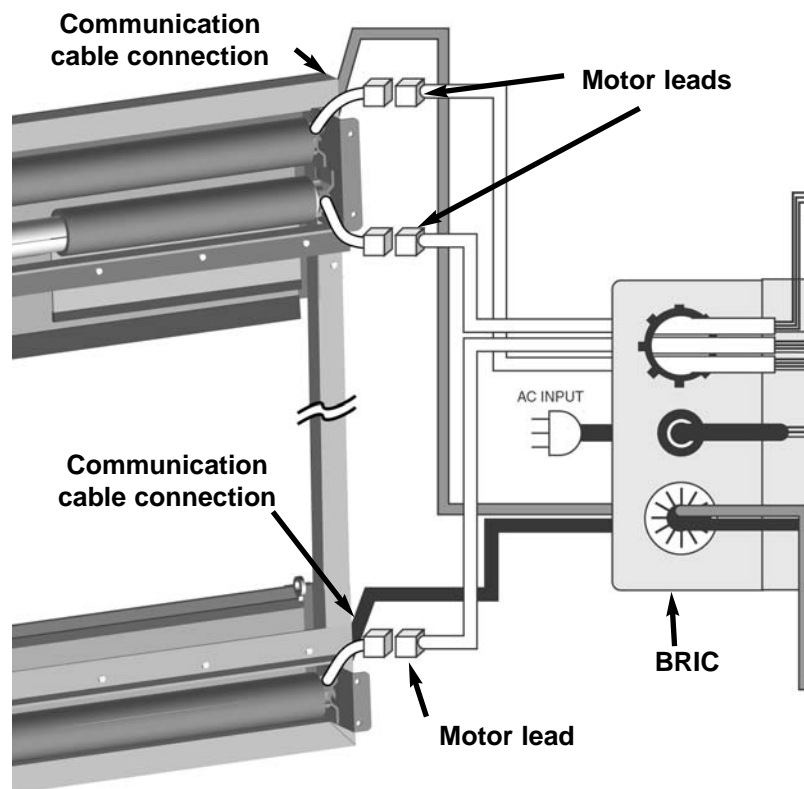

Figure 3. Connecting the BRIC
4. Connect the BRIC to the screen motors. A nominal length of motor lead is provided. There is a motor lead for each motor. The connector on the BRIC side has a number that corresponds to a number on the appropriate connector on the motor. Refer to Figure 3.